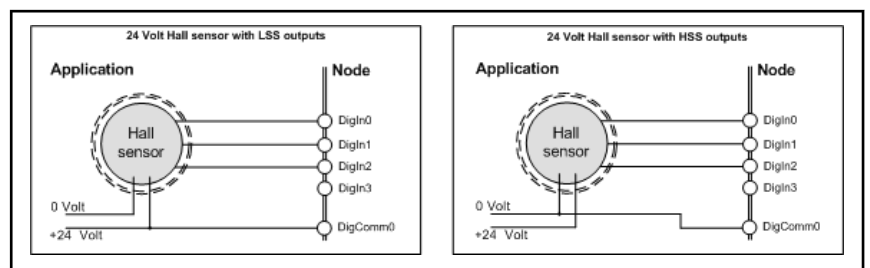

Fig. 11-11: 24 Volt Hall sensor connection
- 24 Volt Hall sensors can be connected to the digital inputs, for the first axis DigIn0, DigIn1 and DigIn2 have to be used. See fig. 11-11 "24 Volt Hall sensor connection" on page 139 for the connection of a Hall sensor with either high side switched or low side switched outputs.